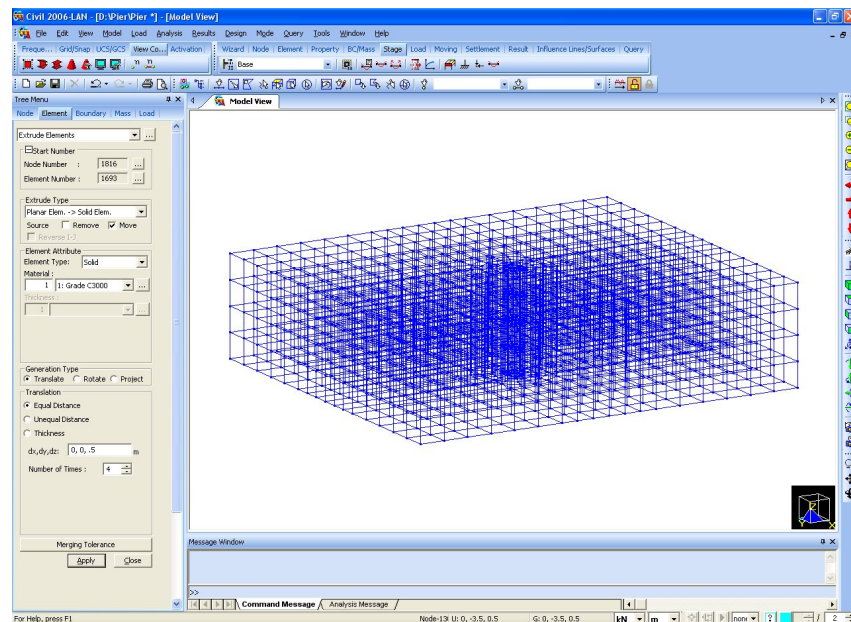

Figure 5.11 Completed Footing
Use the footing plate created previously and  **Extrude Elements** to create the footing (Fig.5.11).
11. Click  (Fig.5.11).